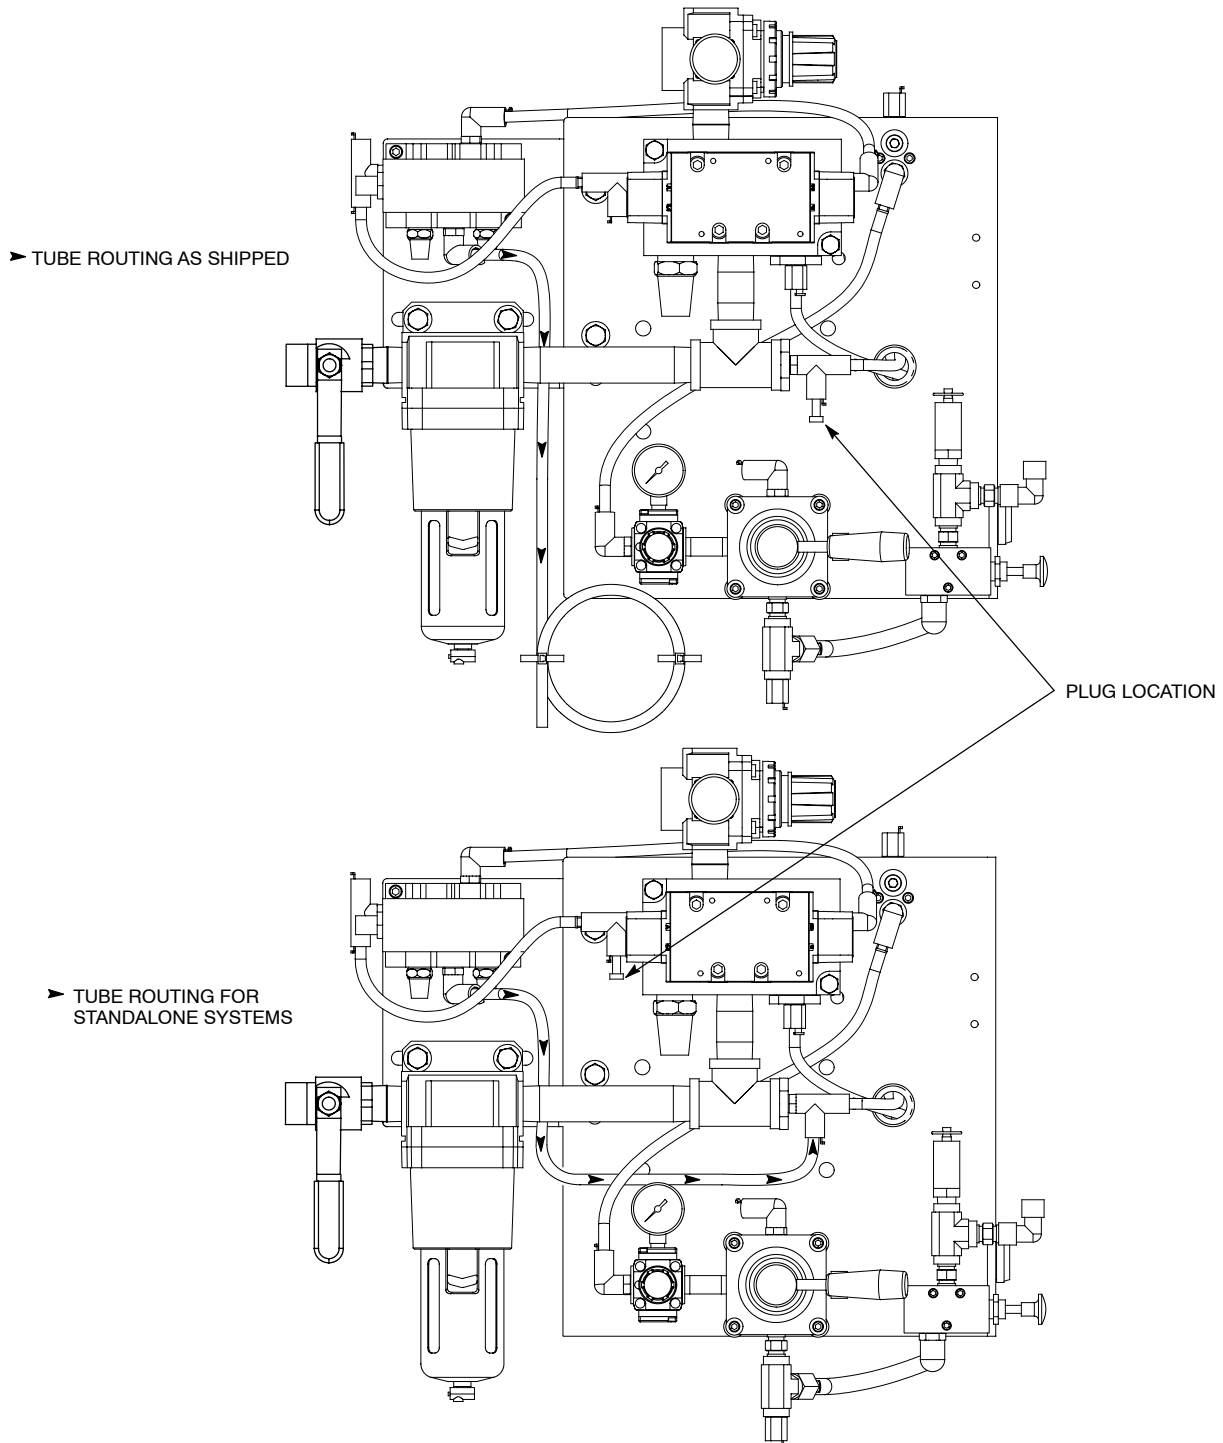

Figure 5 Standalone Configuration
1. See Figure 5. Remove the plug and install it as shown for standalone systems.